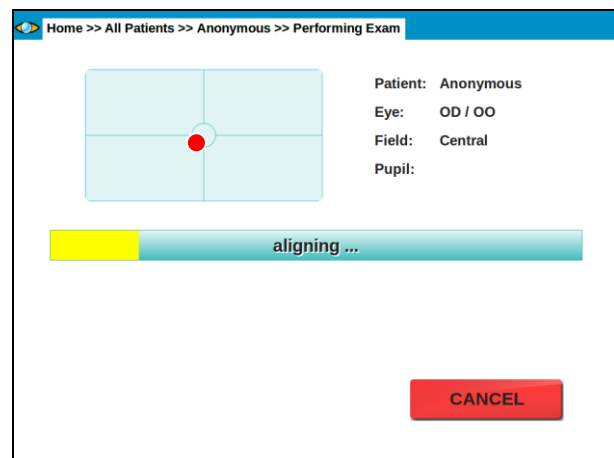

Figure 8 - Automatic alignment in progress
- Move the optical head to center the patient's pupil to the front lens (see Figure 8); the system will also display the pupil current diameter and which eye is being acquired; the red circle in Figure 8 represents the pupil and becomes green when proper centering is achieved.